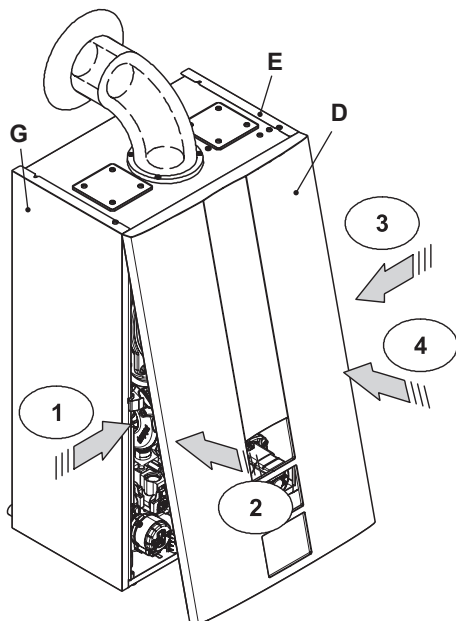

Fig. 9.4
- Push the spring towards the internal side of the boiler and simultaneously push the front case panel D until it is completely hold in place (Fig. 9.4) step 1-2.
- Repeat the same operation on the opposite side of the front panel D, (Fig. 9.4) step 3-4.